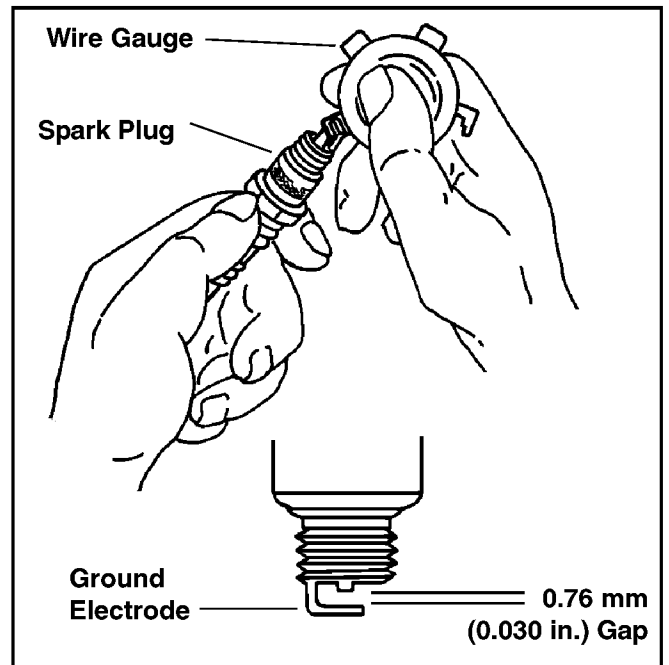

Figure 21. Servicing Spark Plug.
3. Check the gap using a wire feeler gauge. Adjust the gap to **0.76 mm (0.030 in.)** by carefully bending the ground electrode. See Figure 21.